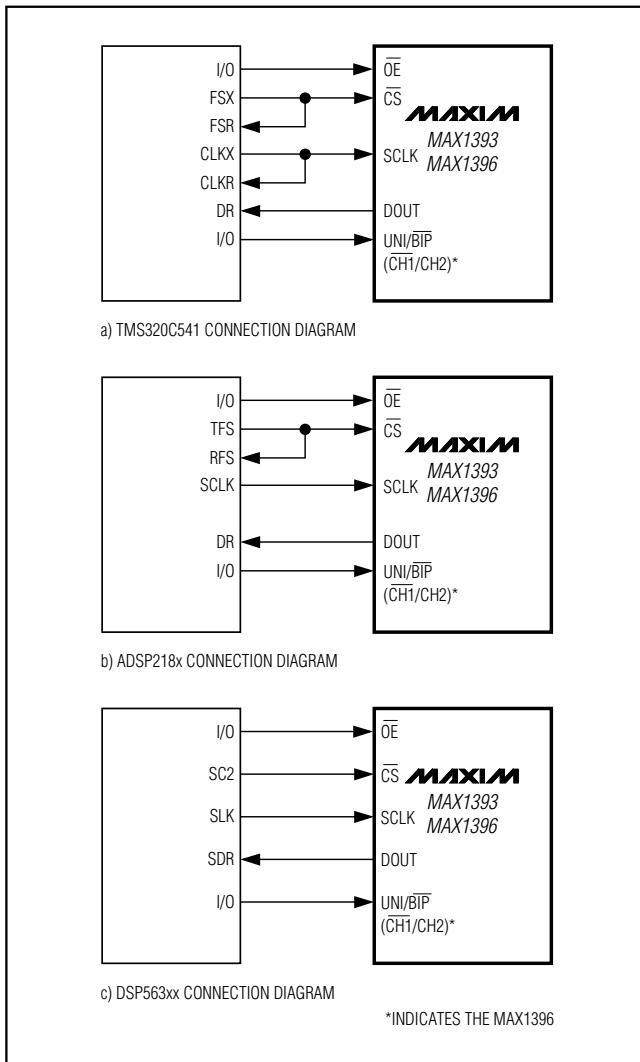

Figure 11. Common DSP Connections to the MAX1393/MAX1396
Figure 10 shows the timing for DSP operation. Figure 11 shows the connections between the MAX1393/MAX1396 and several common DSPs.
As shown in Figure 11, drive the MAX1393/MAX1396 chip-select input (CS) with the DSP's frame-sync signal. OE may be connected to GND or driven independently. For continuous conversion operation, keep OE low and make the CS falling edge coincident with the 16th falling edge of the SCLK.